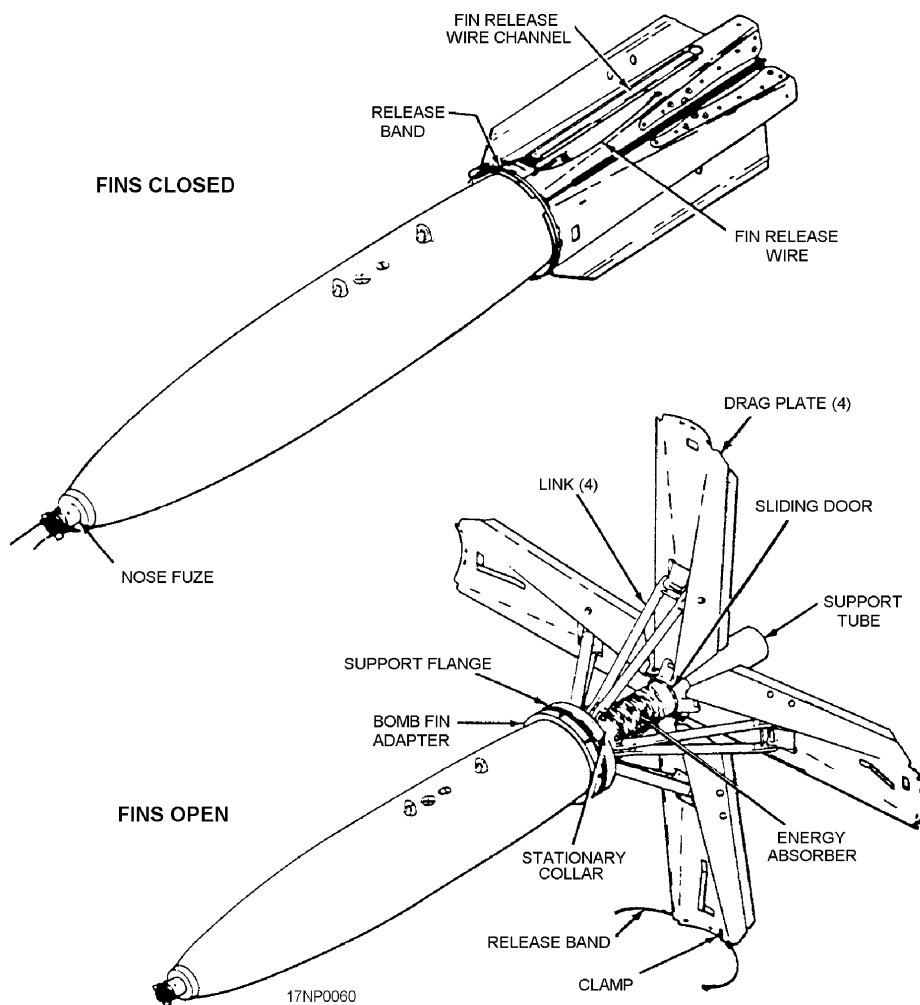

Figure 1-23.—Typical MAU-91A/B fin with ADU-320/B adapter on Mk 83 bomb body.
**MAU-91A/B FIN ASSEMBLY.**—The MAU-91A/B fin assembly (fig. 1-23) is a retarded tail fin used with the 1,000-pound LDGP bomb Mk 83 and Mods. This fin assembly can be dropped in either the retarded or unretarded position.